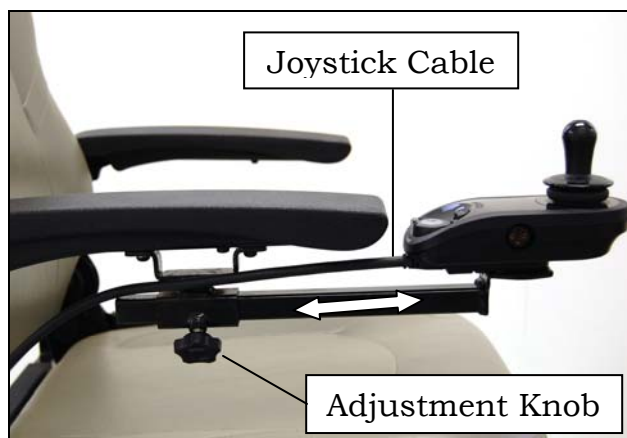

Figure 5
5. Connect the joystick cable. See figure 5 on page 13.
2. Disconnect the cable from the joystick. See figure 5 on page 13.
1. Loosen the joystick adjustment knob. See figure 5.